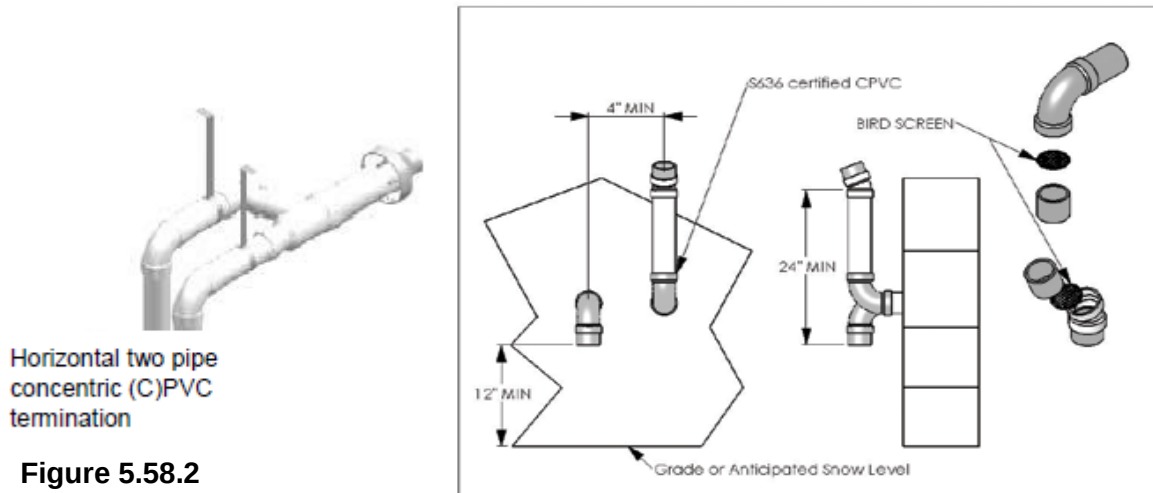

Figure 5.58.1
- Both the inlet and exhaust terminations should be located on the same side of the building and the exhaust termination should be placed so as to reach 24" minimum above the down-turned intake - to avoid re-circulation. The elevation of both pipes can be raised in "periscope style" after passing through the wall, then configured as in **Figure 5.58.1 or Figure 5.58.3**, to gain required clearance. Ideally use a 45° elbow on the exhaust termination to launch the plume up and off the sidewall, for protection of wall. A bird screen is useful to guard against foreign objects.